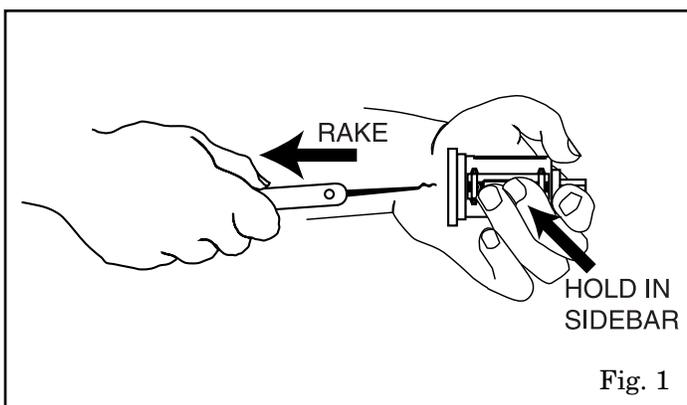

Fig. 1
1. Shown here is an exploded view of a GM cylinder core with a cut-away section, exposing the 6 wafers and the dividing walls on the inside. See Fig. 1. Since the correct key is not present, it becomes necessary to read the wafer depths, in order to produce a workable key.
3. Rake the tumblers with a picking tool. Remember to keep the pressure on the side-bar. It is probable that the front wafer will fall into the open position first, and the side-bar will tilt inward. With further raking, the other wafers will move into the open position also, and the side-bar will be fully pressed down into the case- keep it there! See Fig. 1.